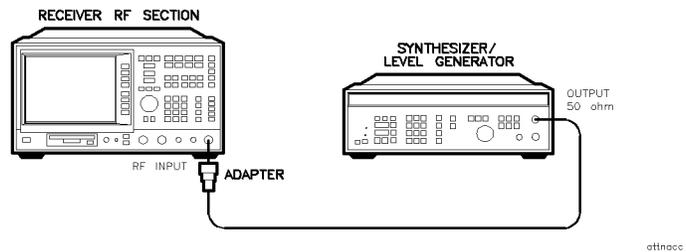

Figure 2-6. Input Attenuator Accuracy Test Setup
2. Connect the equipment as shown in Figure 2-6.